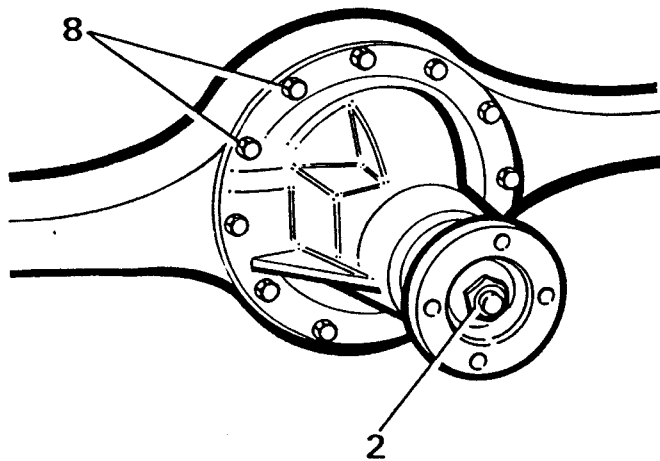

Figure 7
8. Remove twelve nuts and washers from differential flange, see figure 7.
2. Remove nut and spring washer retaining driving flange, see figure 7.